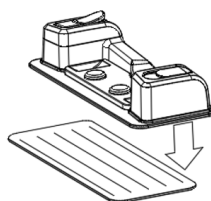

Fig. 7
3. Put on the mop fabric (Fig. 7).